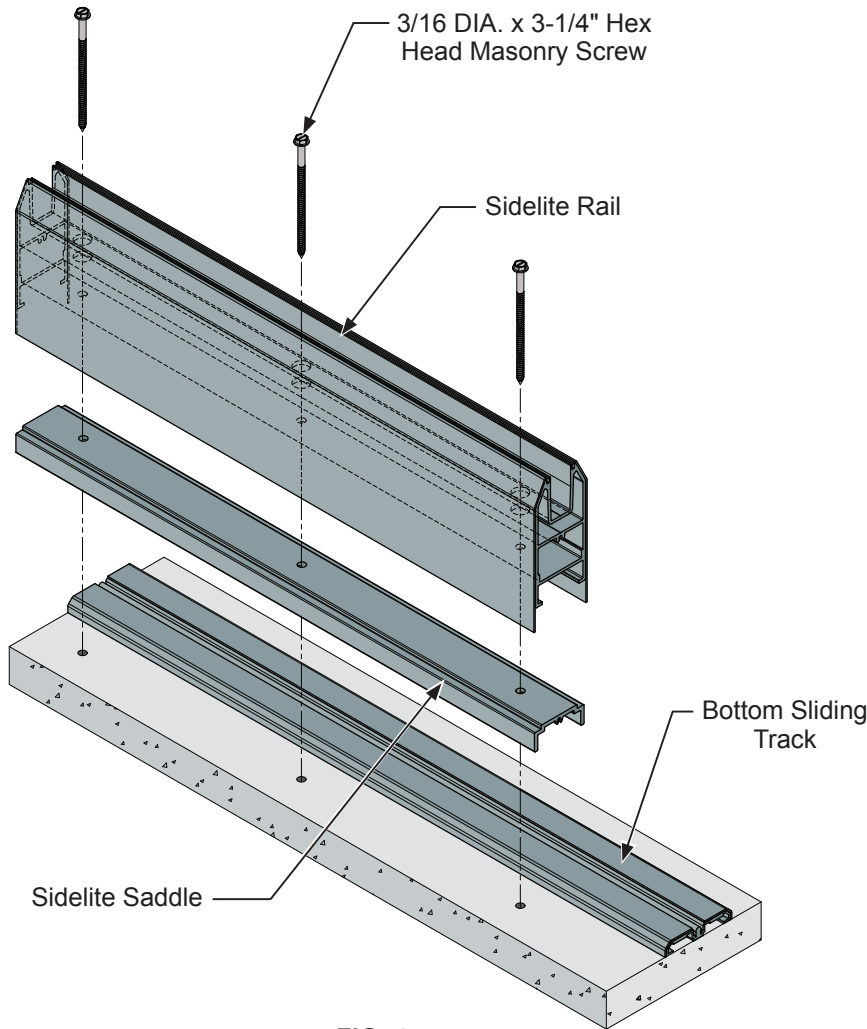
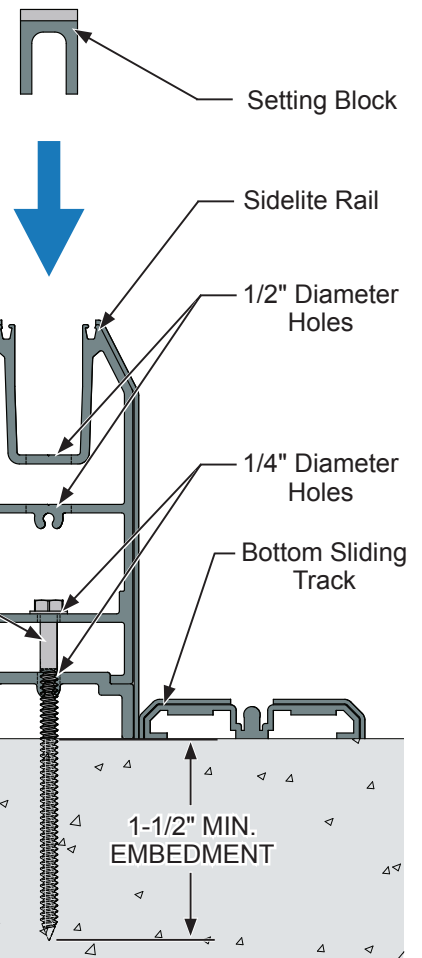

FIG. 4
FIG. 5
1. Drill holes and attach the Saddle and Sidelite with 3/16" DIA. x 3-1/4" Hex Head Masonry Screw. (FIG. 4) & (FIG. 5)
2. Place the Setting Blocks as needed. (FIG. 5)